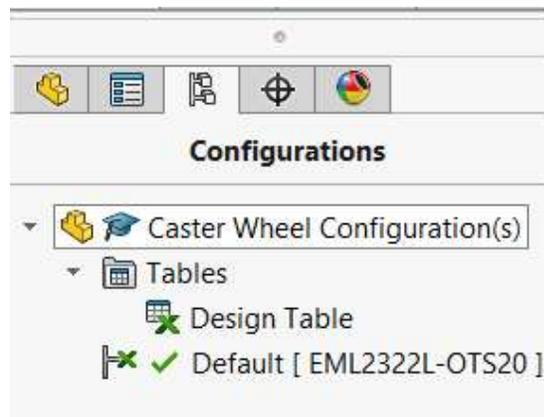

Fig. 3. ConfigurationManager tab showing all options for the caster wheel.
- Expand “Caster Wheel Configuration(s)” and “Tables” to see all the options (Fig. 3).